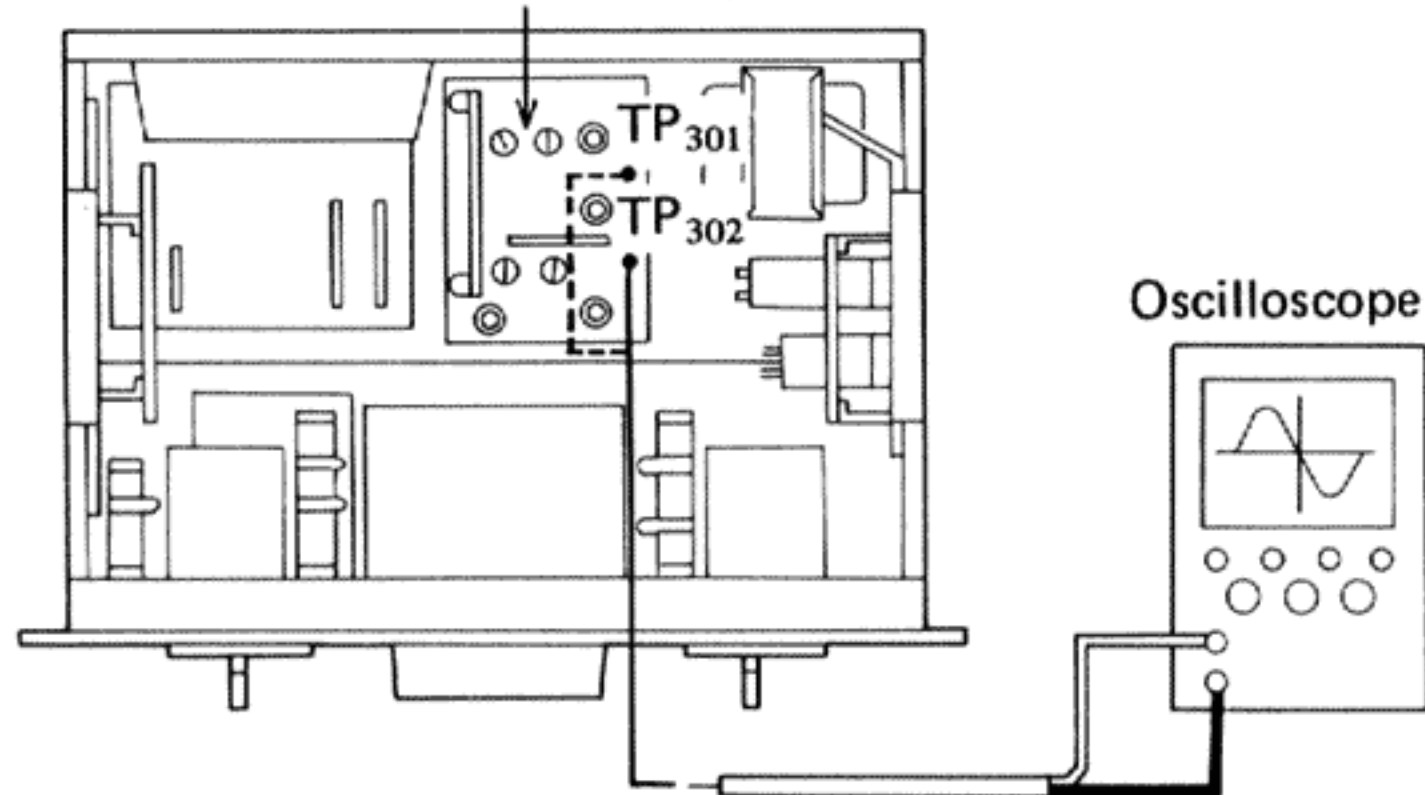

Fig. 35
1. Connect an oscilloscope to test points TP₃₀₁ (L ch), TP₃₀₂ (R ch) of the power and oscillation ass'y RWR-053 (Fig. 35).